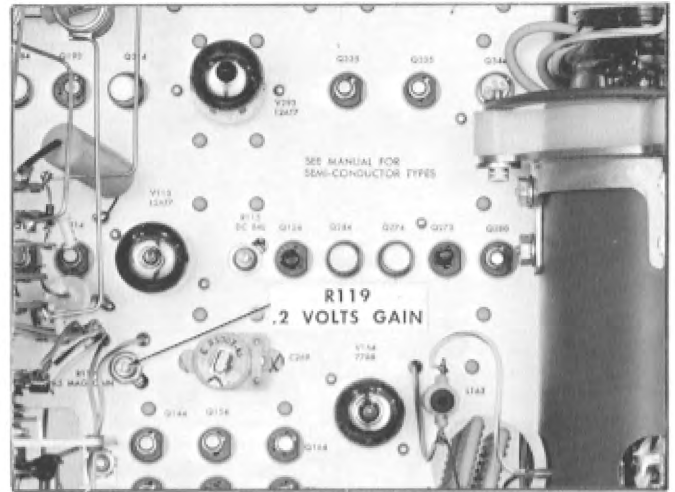

Fig. 6-12. Location of 0.2 VOLTS GAIN adjustment.
- d. Adjust the 0.2 VOLTS GAIN control (R119; see Fig. 6-12) for exactly 140 IEEE units of vertical deflection.